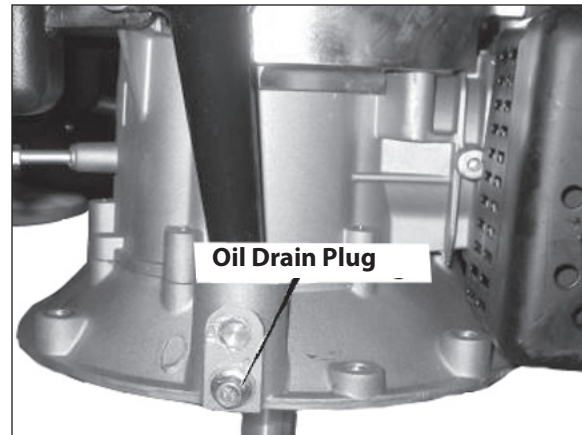

Figure 10: Oil drainplug on 600050V
Change the engine oil when the engine is warm. For the proper oil capacity, see the engine manufacturer's instructions. **SEE FIGURES 10 and 11.**
2. Remove the oil drain plug as shown in Figure 10.